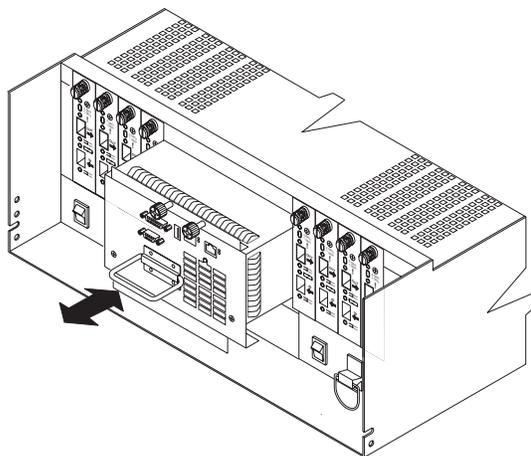

Figure 43. Removing and installing a fan and communications module
The fan and communications module is a single, removable unit containing two cooling fans and two Ethernet ports. This module plugs into a slot at the center back of the DS4400 Storage Server, just above the power supplies (see Figure 43 on page 54). It has a locking lever and a pull handle for securing and removing the fan and communications module. The module contains dual fans that provide a redundant cooling system to both power supplies. If one fan within the module fails, the other continues to operate. A single fan provides sufficient air circulation to prevent the power supplies from overheating until you can replace the entire fan and communications module.
2. Using Figure 43 as a guide and use the following steps to remove the failed fan and communications module from the DS4400 Storage Server.